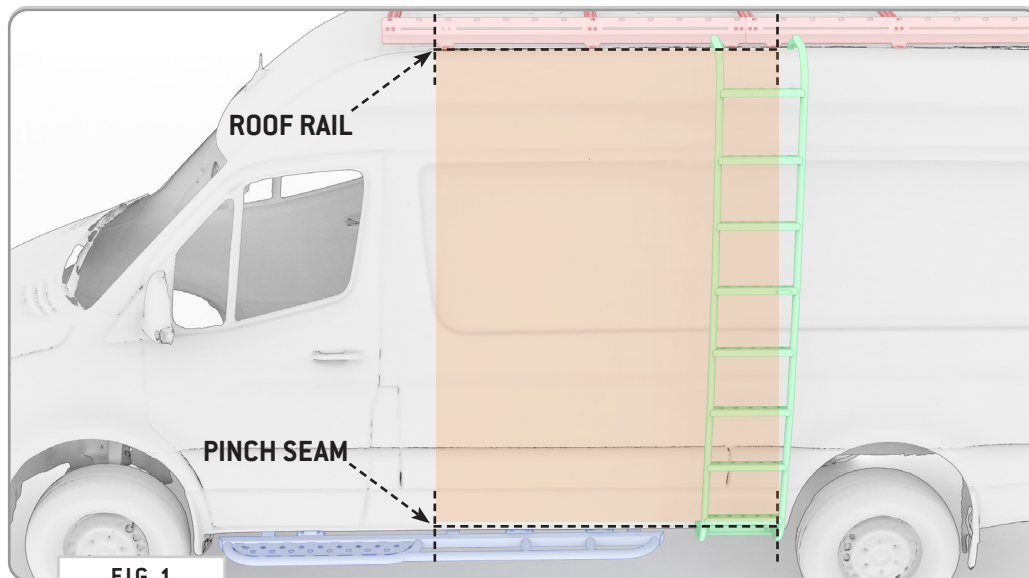

FIG 1
1.1 Identify Van Configuration: There could be any number of accessories mounted to your van that may inform the way you approach the install of your **Surf Pole** (Roof Racks, Side Steps, Water Tanks, etc.) See **FIG 1** for key areas that will need accessed.